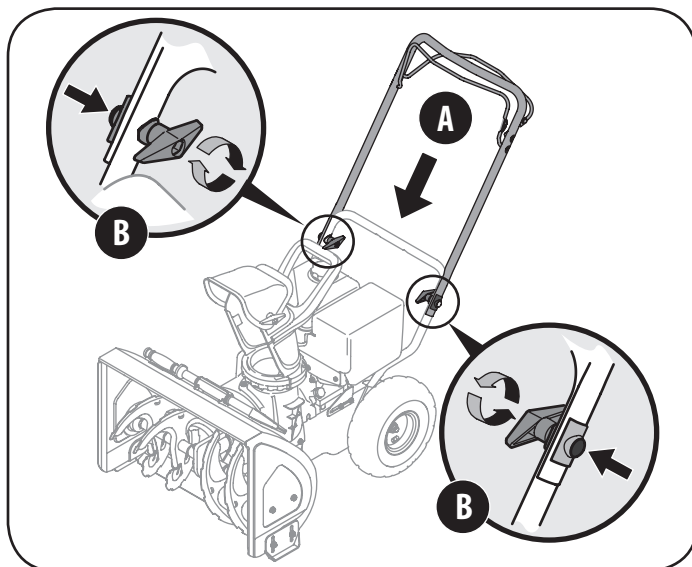

Figure 2
3. Lift the upper handle up and position it over the lower handle, aligning the holes where the wing knobs were removed (A) in Figure 2).
4. Insert a carriage screw from the outside through a handle tab, the upper and lower handles, a saddle washer and into the wing knob (B) in Figure 2). Repeat on the other side.
5. Tighten the wing knobs on each side of the handle. Refer to Figure 2.